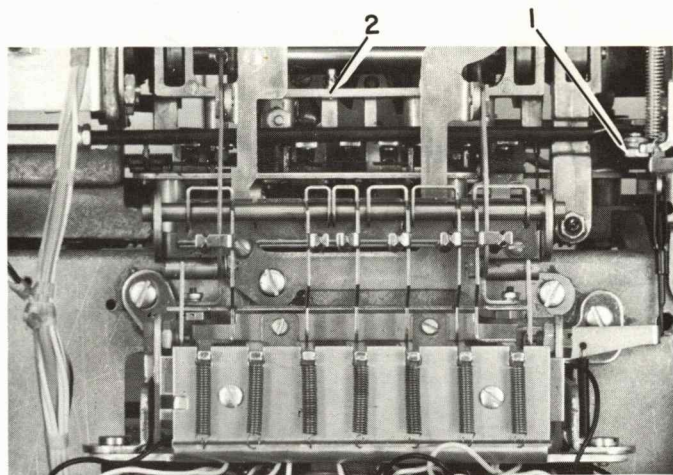

FIGURE 21. Rotate Selection Differential Removal
4. Disconnect the rotate link at both ends and remove it (#1, Figure 21).
5. Remove the latch-bail spring (#2, Figure 21).